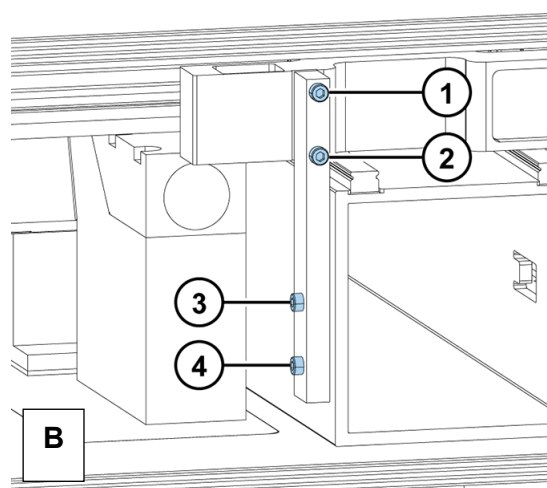

Figure 5-56 Transport lock released (A) and fastened (B) (screws 1-4 shown)
5. Remove the two screws marked 1 and 2 of the transport lock from their storage site on the track mechanism bar (Figure 5-56 A).
6. Remove the screw marked number 3 (Figure 5-56 A).
7. Loosen the screw marked number 4 of the transport lock slightly by using the hexagonal screwdriver supplied (Figure 5-56 A).
When you have loosened the screw number 4 so that the transport lock bar moves, turn the transport lock bar into a vertical position towards the front of the instrument (Figure 5-56 B). Pull the tray holder gently from inside the instrument so that you can fit the transport lock bar into its groove in the tray holder.
8. Refit the two screws marked 1 and 2 into the holes designated for them using the hexagonal screwdriver supplied (Figure 5-56 B).
9. Tighten the screws marked number 3 and 4 firmly once you have fastened the screws marked number 1 and 2 of the transport lock (Figure 5-56 B).